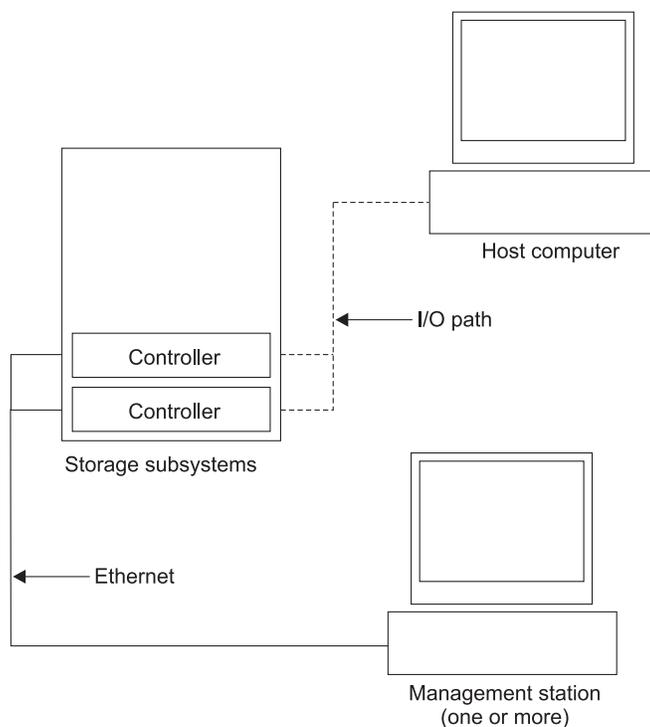

Figure 39. Direct (out-of-band) management method
This section applies to direct (out-of-band) management configurations only. If your configuration uses host-agent (in-band) management, skip this section. Use the Ethernet management port on the rear of the DCS3700 system storage controllers for direct management of the storage subsystems (see Figure 39 on page 59).
**Direct (out-of-band) management method:** Ethernet connections are used from a management station to each controller in the storage subsystem. You must install at least one management station. The management station can be the host or a workstation on the Ethernet network. The client software is installed on the management station. Attach Ethernet cables to each management station (one pair per storage subsystem). You will connect the cables to each storage system controller later when you install the storage subsystem. Figure 39 on page 59 shows the direct (out-of-band) management method.